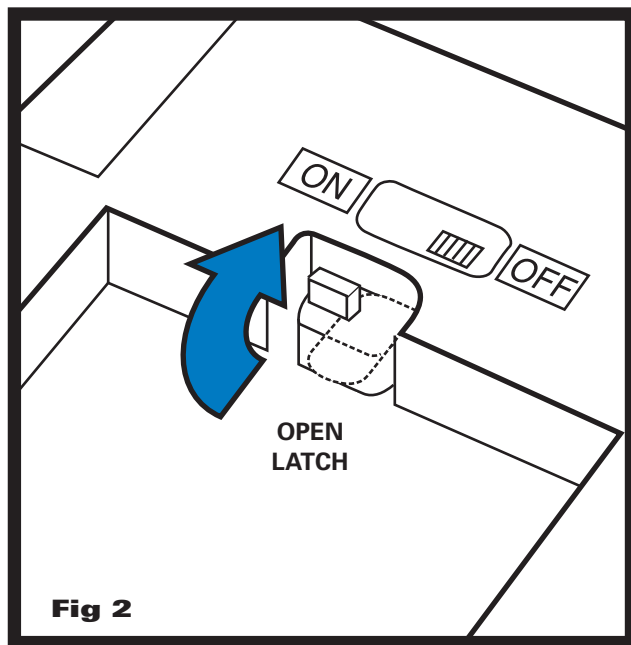

Fig 2
1. Turn BATTERY LATCH on the bottom of the vehicle clockwise to open position. (Fig. 2)